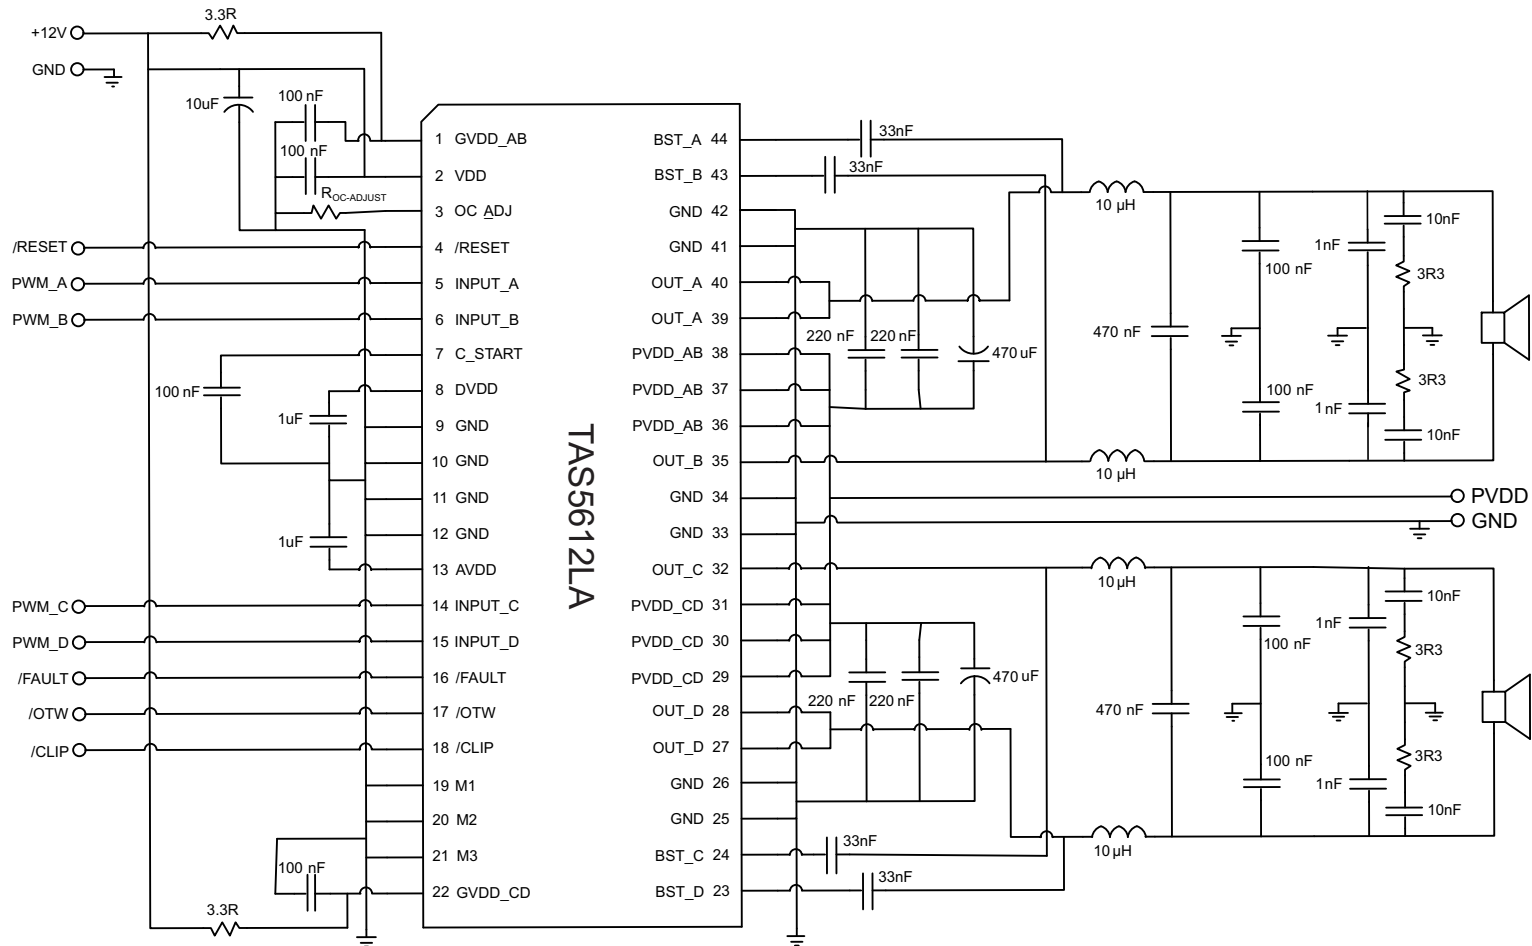

Figure 16. Typical Differential (2N) BTL Application With AD Modulation Filters
See Figure 16 for application schematic. In this application, differential PWM inputs are used with AD modulation from the PWM modulator (TAS5558). AD modulation scheme is defined as PWM(+) is opposite polarity from PWM(-).
- Pins 27, 28, 32, 35, 39, 40 - Output pins from half-bridges A, B, C, and D. Connect appropriate bootstrap capacitors and differential LC filter as shown in Figure 16.
- Pins 29, 30, 31, 36, 37, 38 - Power supply pins to half-bridges A, B, C, and D. A and B form a full-bridge and C and D form another full-bridge. A 470-uF bulk capacitor is recommended for each full-bridge power pins. Two 0.22-μF decoupling capacitors are placed on each full-bridge power pins. See Figure 16 for details.